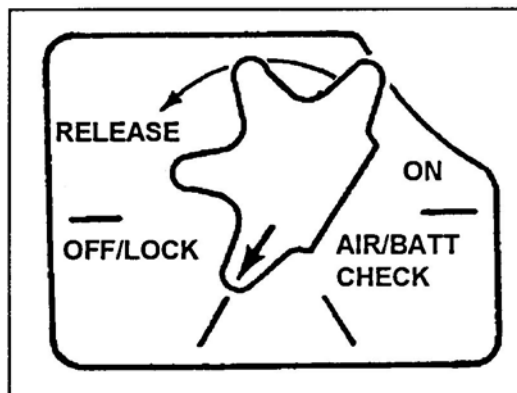

Figure 4. Loading of the Coolant Cartridge
- (4) Slide the new coolant cartridge in from the front of the night tracker, under the rollers, and back into the actuator assembly. While holding the cartridge in place, rotate the actuator switch counterclockwise to the first click. This is the OFF/LOCK position (Figure 4).